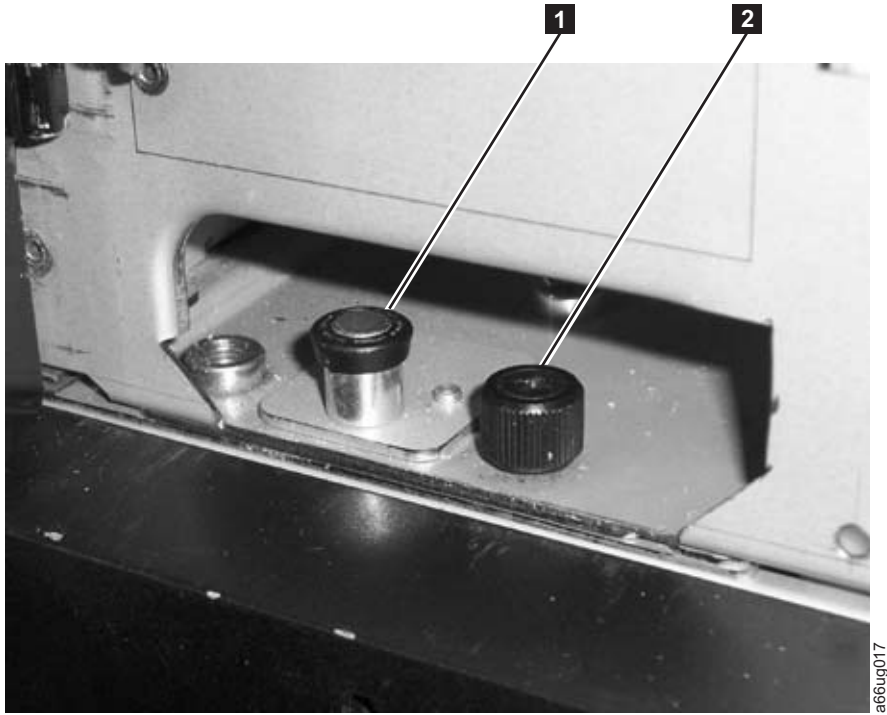

Figure 4-23. Module-to-module alignment pin and front thumb screw
2. Ensure that the module-to-module alignment pin of the top module (**1** in Figure 4-23 on page 4-20) is in the raised position. If necessary, raise the pin and rotate it half a turn to lock it in the raised position.
8. Twist the upper module alignment pin (**1** in Figure 4-23 on page 4-20) to unlock it from the up position.
10. Tighten the front thumb screw (**2** in Figure 4-23 on page 4-20) and the thumb screw behind the I/O station door to secure the front of the upper module to the lower module.